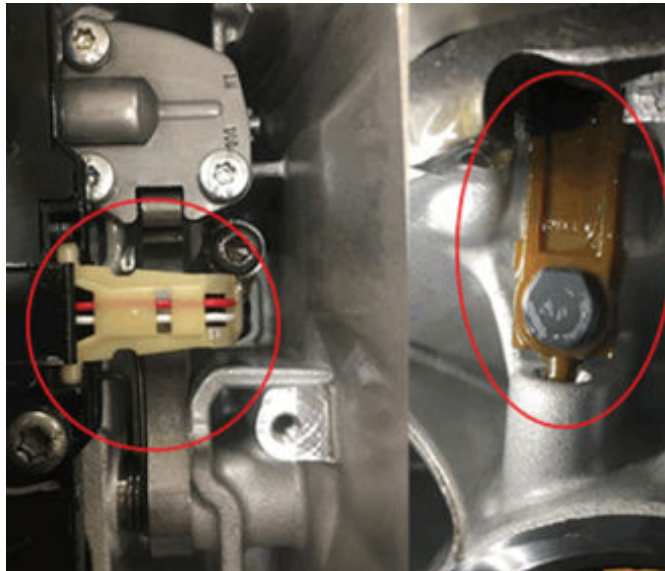

Fig. 45
70. This is the correct installation and pin alignment Fig. 45.